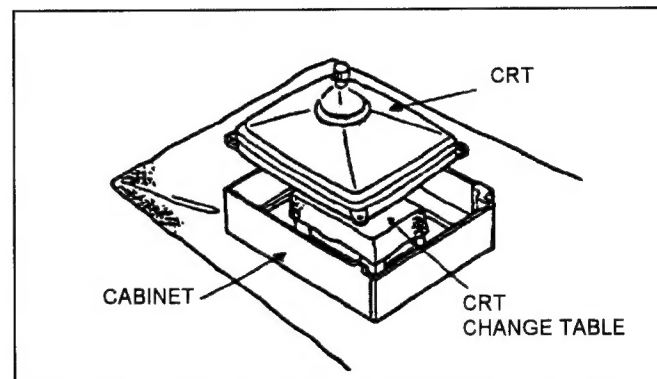

Fig. 5
- 4. After 4 nuts have been removed, put the cabinet slowly on cloth (At this time, be carefully so as not to damage the front surface of the cabinet) shown in Fig.5.